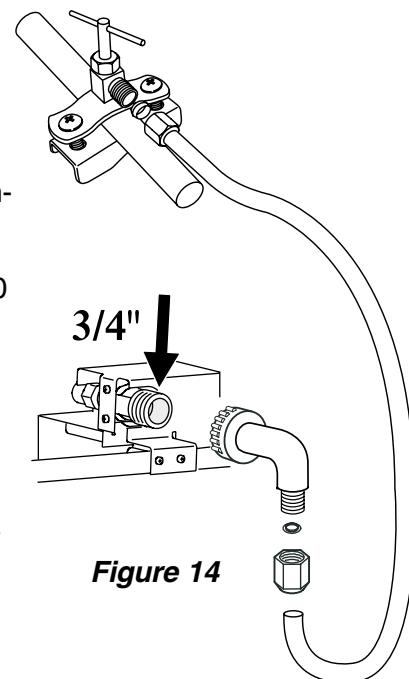

Figure 14
2. The 1/4" OD copper tubing between the shut-off valve and solenoid valve has a ***Metric R3/4 male connector (Figure 14).*** Make sure there is approximately 30" (70 cm) of excess tubing behind the unit for easy connection.